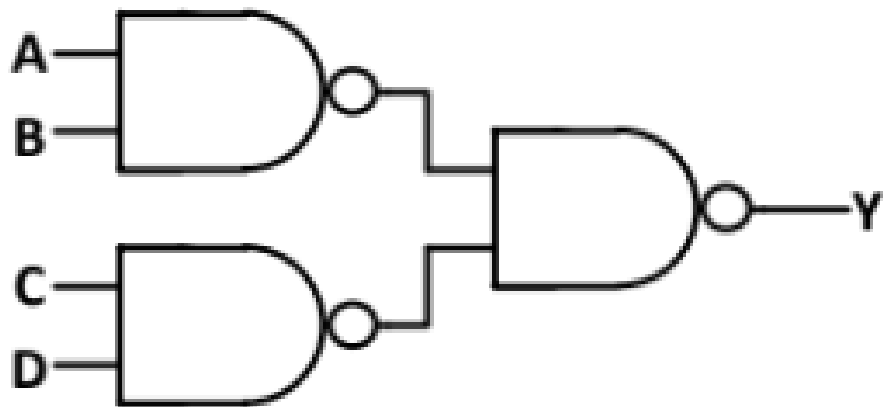

Figure 3.9:
22. Find the logic function implemented by the circuit given below in Fig. 3.9 (GATE EE 2018)